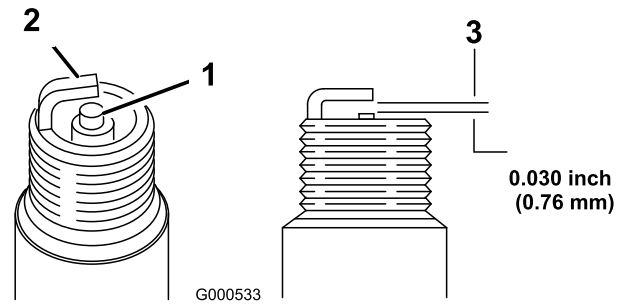

Figure 35
- Set the gap on the plug to 0.030 inch (0.76 mm) (Figure 35).